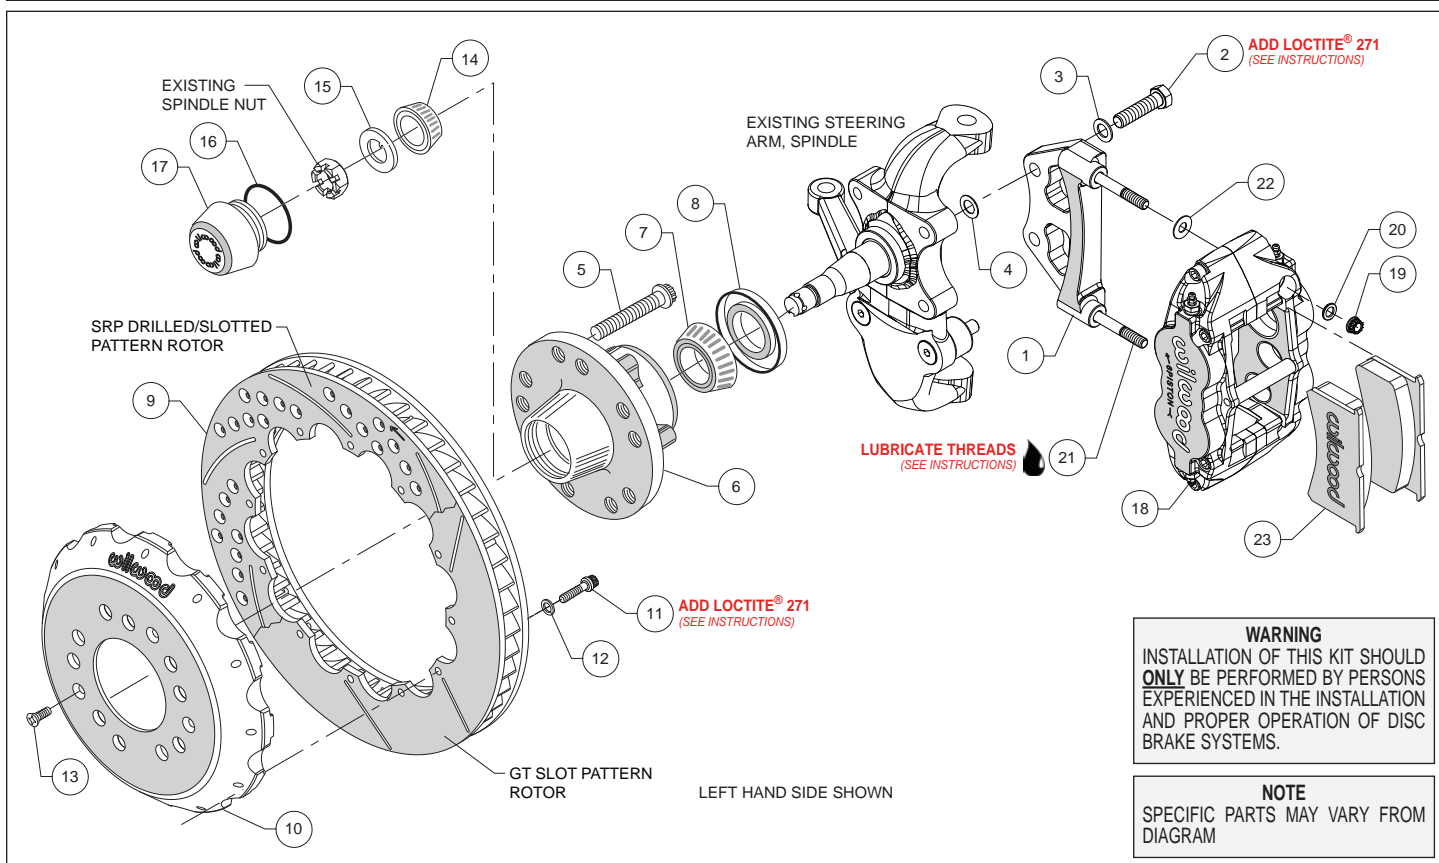
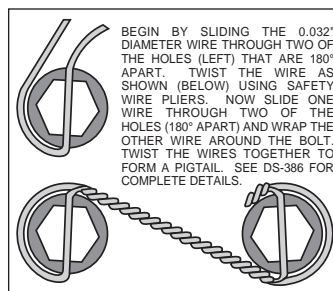

Figure 1. Typical Installation Configuration
Figure 3. Safety Wire Diagram
Assembly Instructions (numbers in parenthesis refer to the parts list on the preceding page, and Figure 1):
- The caliper mount bracket (1) should initially be installed with clean, dry threads on the mounting bolts. Orient the bracket as shown in Figure 1, and install using bolts (2) and washers (3). Initially place one .032" thick shim (4) on each bolt between the bracket and upright, Figure 1 and Photo 1. Temporarily tighten the mounting bolts. **NOTE:** *The bracket must fit squarely against the mount bosses on the upright.* Inspect for interference from casting irregularities, machining ridges, burrs, etc. Later, after the caliper alignment has been checked, the mount bolts will be secured using red *Loctite*[®] 271.
- Pack the large inner bearing cone (7) with high temperature disc brake bearing grease (available from your local auto parts store) and install into the backside of the hub (6), Photo 3.
- Install the grease seal (8) by pressing into the backside of the hub (6), flush with the end of the hub, Photo 3.
- Orient the rotor (9) and the hat (10) as shown in Figure 1 and Photo 4. Attach rotor to hat using bolts (11) and washers (12). Using an alternating sequence, apply red *Loctite*[®] 271 to the threads and torque bolts to 155 **in-lb**. For an added measure of security, the bolts may be safety wired using standard 0.032 inch diameter stainless steel safety wire as shown in Figure 3. Refer to Wilwood's data sheet DS-386 (available at www.wilwood.com/Pdf/DataSheets/ds386.pdf) for complete safety wire installation instructions.
•**NOTE:** This kit contains distinct right and left hand calipers that must be mounted in a specific direction, as described below. Lubricate the caliper mounting studs (21) with lightweight oil. Initially place one .035" thick shim (22) on each stud between the caliper and the bracket, as shown in Figure 1 and Photo 7. Mount the caliper (18) onto the bracket (1) using lock nuts (19) and washers (20), Figure 1. Ensure that the caliper is mounted so the largest pistons are at the rotor exit end of the caliper, in relation to the direction of rotor rotation. Temporarily tighten the lock nuts and view the rotor through the top opening of the caliper. The rotor should be centered in the caliper, Photo 8. If not, adjust by adding or subtracting shims (4) between the bracket and the upright. Always use the same amount of shims on each of the two mounting bolts. Once the caliper alignment is correct, remove the bracket mounting bolts (2) one at a time, apply red *Loctite*[®] 271 to the threads, and torque to 90 ft-lb.